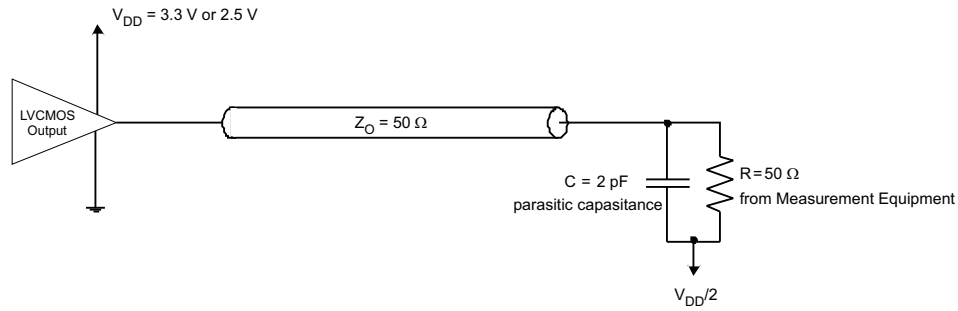

Figure 3. Test Load Circuit
- (1) All typical values are at respective nominal VDD. For switching characteristics, outputs are terminated to 50 Ω to VDD/2 (see Figure 3).